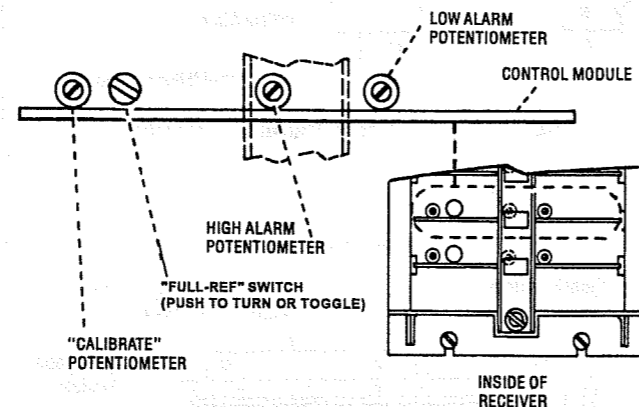
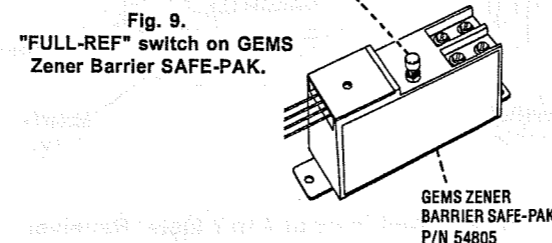

Fig. 8. Individual system adjustments on control module within receiver.
Fig. 9. "FULL-REF" switch on GEMS Zener Barrier SAFE-PAK.
1. With all cables connected and power switch (Fig. 1) "ON", turn "CALIBRATE" potentiometer on proper control module (Fig. 8) to full counter-clockwise position.
2. For system WITHOUT Gems Zener Barrier SAFE-PAK, press "FULL-REF" switch and rotate clockwise to hold on proper control module and adjust "CALIBRATE" potentiometer until related meter reads full scale. For systems WITH Zener Barrier SAFE-PAK, press and hold "FULL-REF" switch atop Barrier (Fig. 9) and adjust "CALIBRATE" potentiometer for full-scale meter reading. Do not use "FULL REF" switch on control module. It should be left in released position (fully counter-clockwise).
- B. Adjust "LOW ALARM" potentiometer on related control module (Fig. 8) until low alarm control just actuates alarm. Repeat steps A and B once more to verify adjustment.
- D. Adjust "HIGH-ALARM" potentiometer (Fig. 8) until high alarm control just actuates alarm. Repeat steps C and D once more to verify adjustment.
Calibration of individual tank systems can be checked at any time by depressing FULL-REF. switches on related control modules (Fig. 8) or FULL-REF. switches on related Zener Barriers as in Fig. 9 (if included in systems).